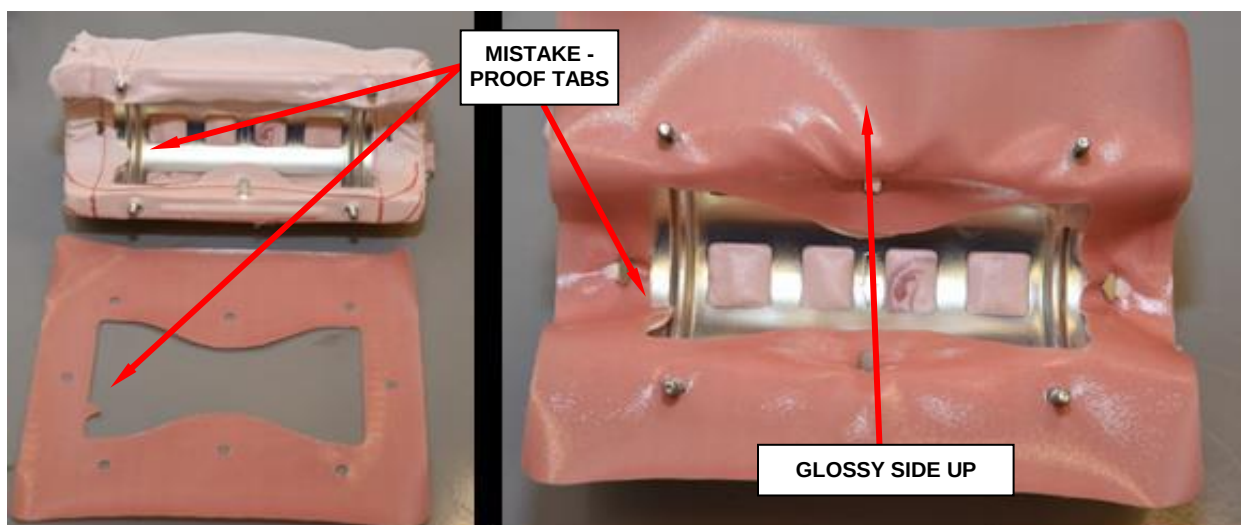

Figure 101 – Fabric Gasket to Cushion
- e. Remove and **discard** the four inflator mounting nuts (Figure 101).